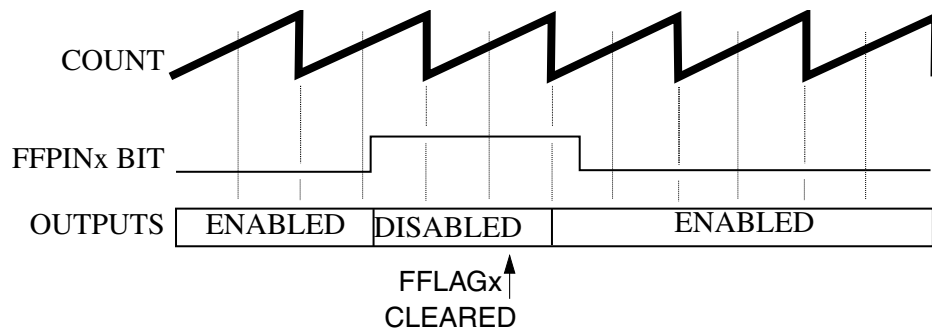

Figure 111. Manual fault clearing (FCTRL[FSAFEx] = 0, FSTS[FFULLx] = 1)
- The pins are enabled when the next PWM full or half cycle begins regardless of the logic level detected by the filter at the FAULT_x pin, as shown in Figure 111. If FSTS[FFULL_x] is set, then the disabled PWM pins are enabled at the start of a full cycle. If FSTS[FHALF_x] is set, then the disabled PWM pins are enabled at the start of a half cycle.